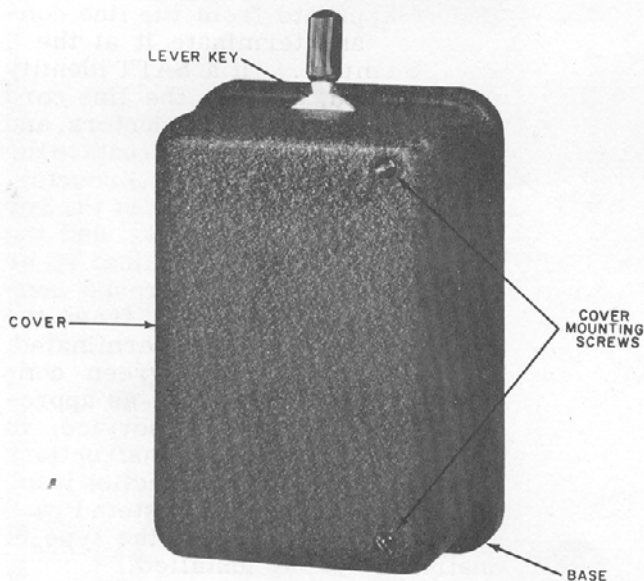
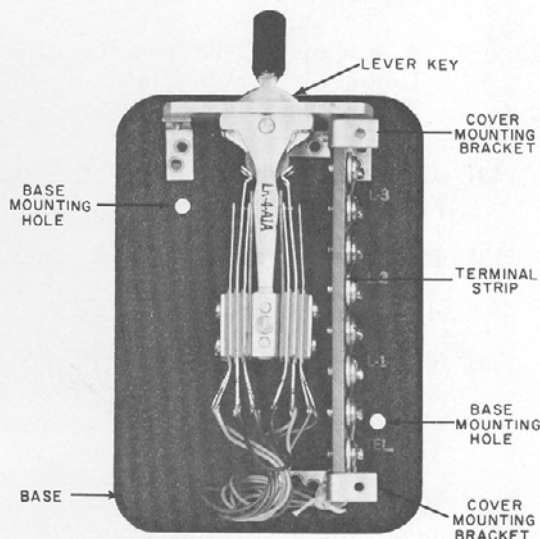

Figure 1. A. E. Co. MC-8885-A Three-Line Lever Key.
Figure 2. A. E. Co. MC-8885-A Three-Line Lever Key with Cover Removed.
2.01 The A.E.Co. MC-8885-A Three-Line Lever Key (Figure 1) is a box-type key approximately 5-inches high, 3-1/2-inches wide, and 1-3/4-inches deep. It consists of a two-conductor three-position lever key, LK-4-A1A (Figure 2), and an eight-terminal
- (1) Remove the two cover mounting screws (Figure 1).
- (2) Unscrew, and remove the handle from the lever key.
- (3) Remove the cover by pulling out the bottom end and sliding it up, free of the lever key.
- (4) Fasten the key to a wall, desk, etc., using appropriate screws through the two base mountingholes (Figure 2).
- (5) After the desired connections have been made to the terminal strip, replace and fasten the cover, and replace the lever key handle.